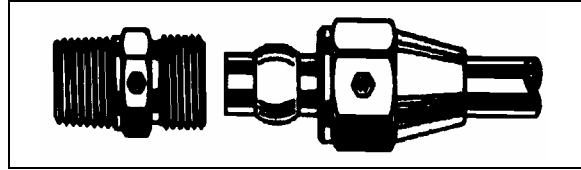

FIGURE 50: HOSE FITTING 12056
**AB-Type Copper Piping:** Hand tighten nut (Fig. 50). From that point, tighten with a wrench the number of turns indicated in the following chart.